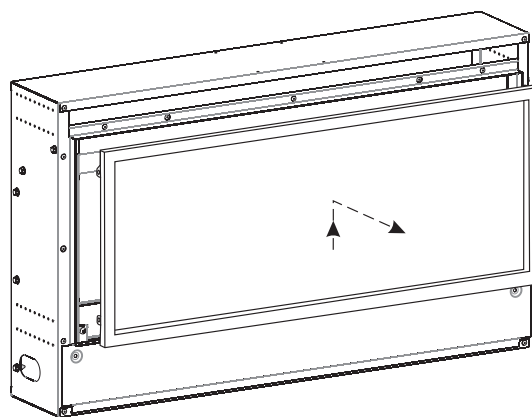

Figure 21
- Remove screen by lifting slightly. Pull screen out. Remove contents above burner. **See Figure 21.**